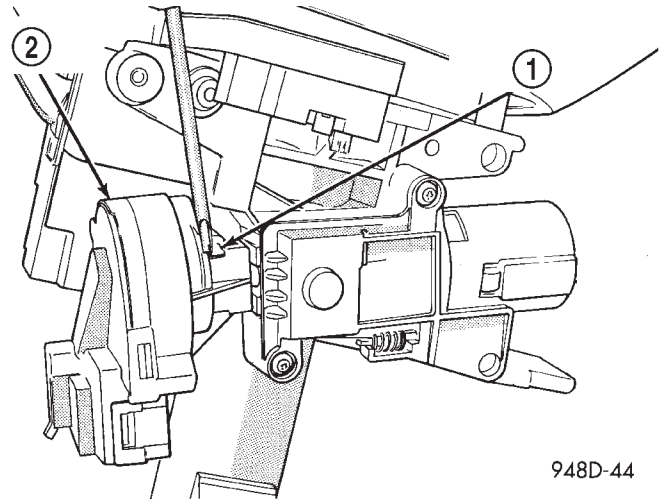

Fig. 20 Removing Ignition Switch
(6) Depress retaining tabs (Fig. 20) and pull ignition switch from steering column.